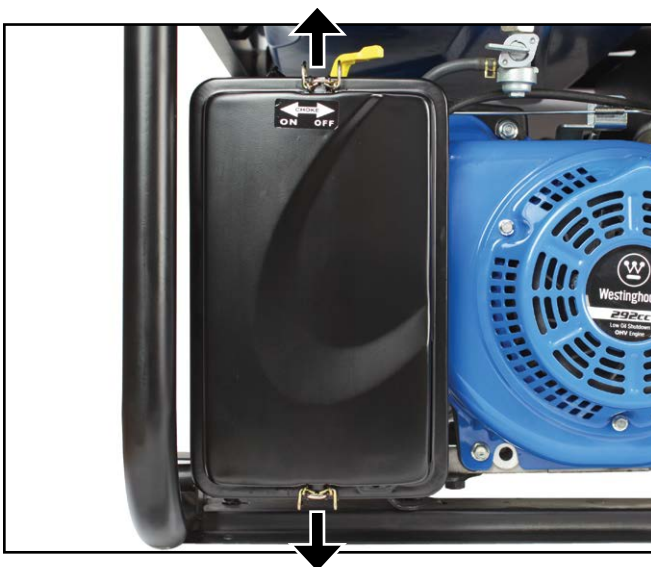

Figure 38 – Removing Air Filter Cover
3. Release the latches at the top and bottom of the air filter assembly (see Figure 38).